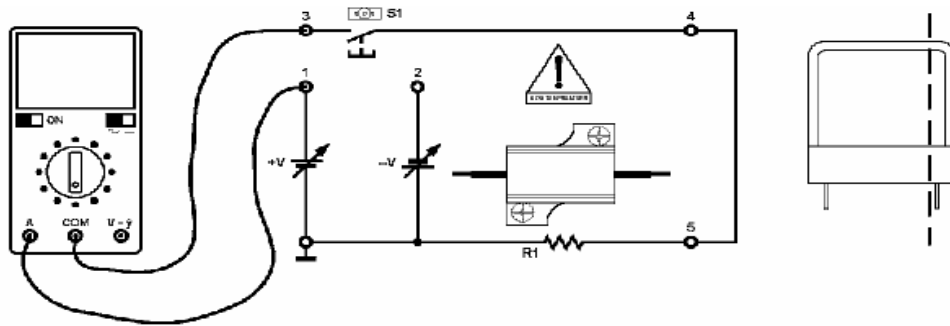

Fig 2.4: Topographical diagram of positive voltage for rectilinear conductor
2. Connect a multimeter, set as ammeter, between jack 1 and jack 3 (Fig.2.2 and Fig. 2.4);